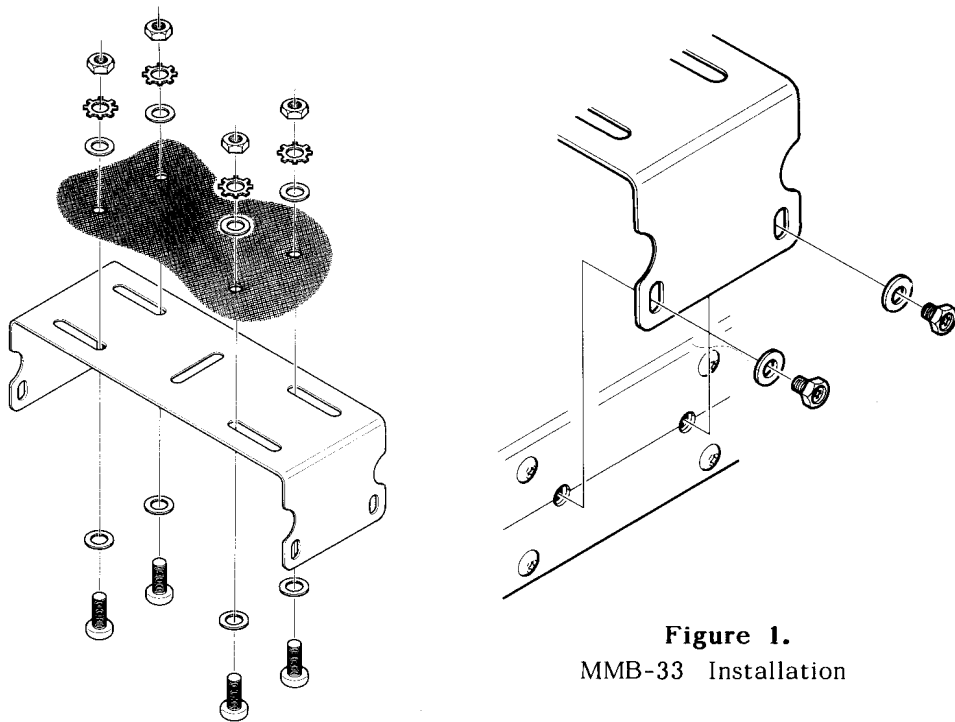

Figure 1.
- (1) Use the mounting bracket as a template for positioning the mounting holes, after determining the proper location with sufficient clearance for the transceiver. Use a 4.8mm (3/16") bit for drilling the holes. Secure the bracket with the screws, washers and nuts supplied, as shown in Figure 1.